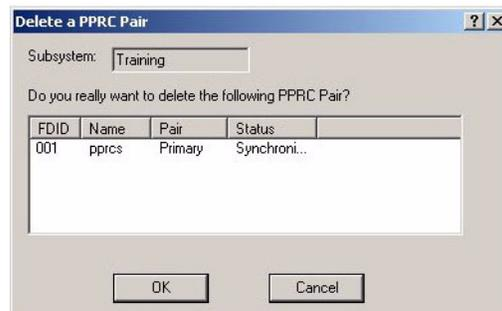

Figure 24 Deleted Pair Information Box
- The information box of Figure 24 appears. **Make sure this is the pair you wish to delete.**